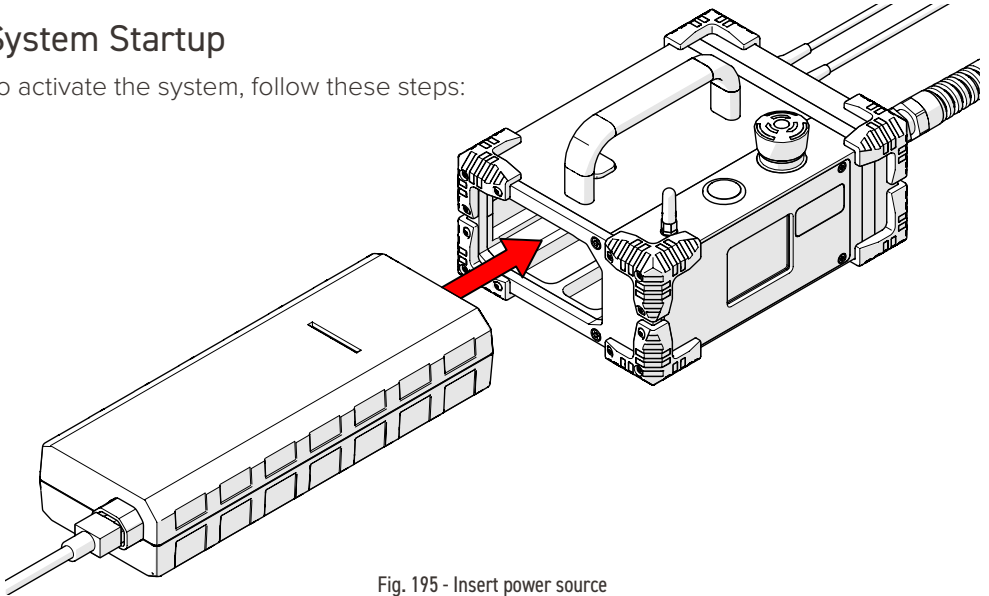

Fig. 195 - Insert power source
1. Insert the power source (Fig. 195) into the system controller dock.